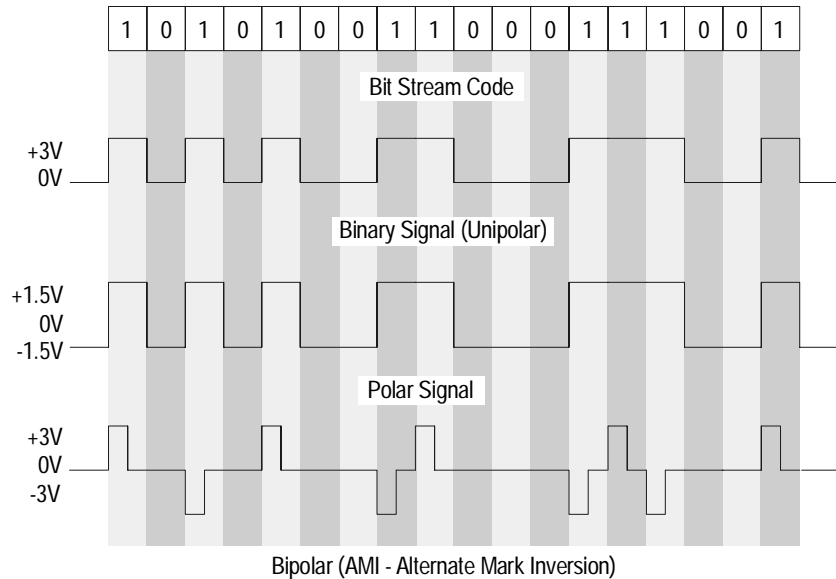

Figure 6. T1 Line Coding Methods
- The Binary signal, also called unipolar, uses two voltage levels to represent zero and one bits. In Figure 6, 0V represents zero and +3V represents one. This line coding method is called unipolar because it is not symmetrical around 0V.
- The Polar signal uses the positive and negative voltage of a certain value to represent zero and one. In Figure 6, -1.5V represents zero and +1.5V represents one. This code is also called a non-return to zero (NRZ).
Figure 6 shows the three line coding methods.